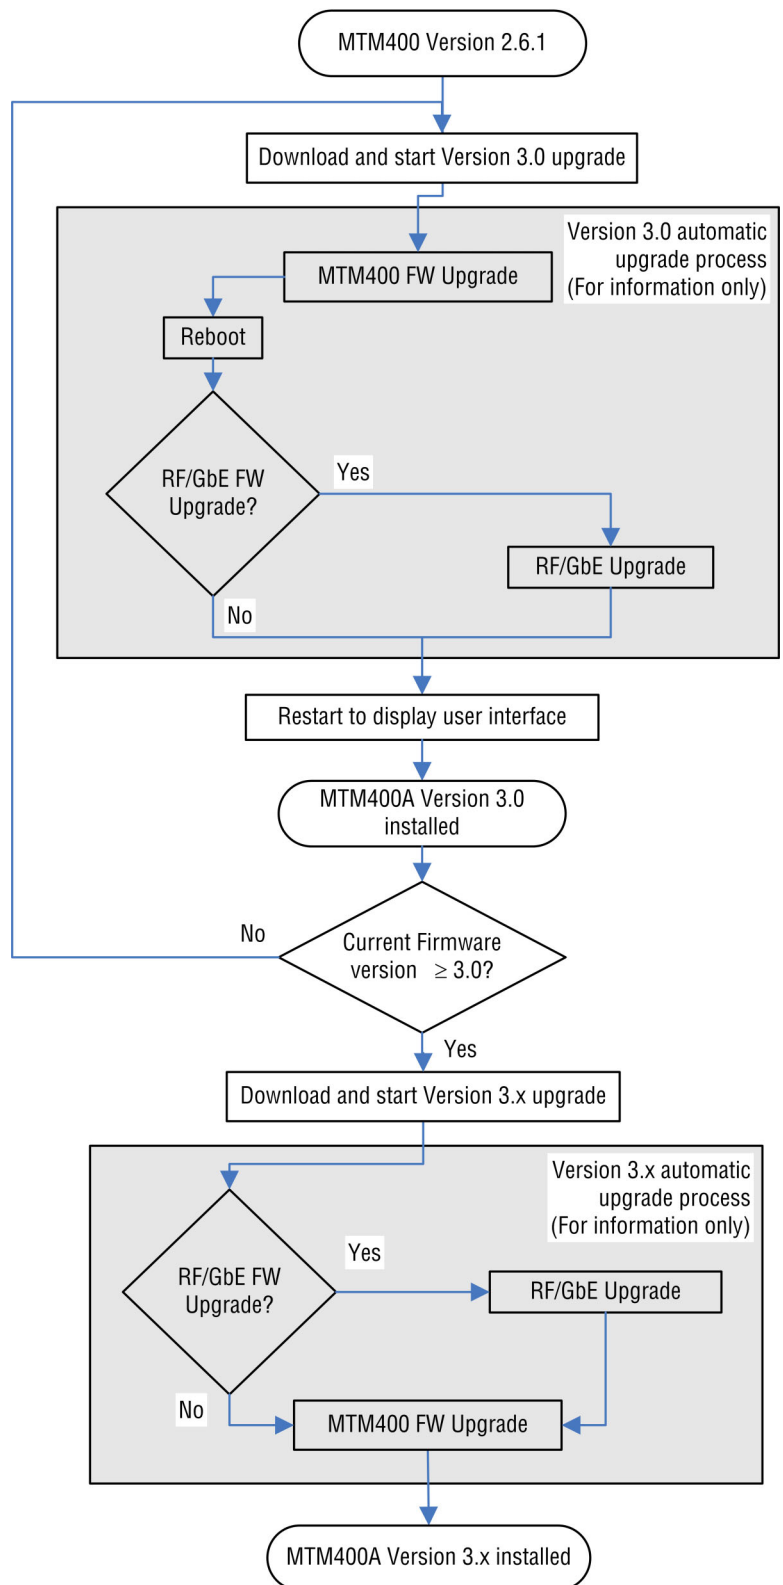

Figure 1: MTM400A upgrade path
- If your MTM400 or MTM400A monitor is currently operating with RUI v2.6.1 or below, perform the procedure described in *Firmware Upgrade (RUI v2.6.1 and Below)* to upgrade to RUI v3.0. (See page 15.) Even if you are upgrading to RUI v3.1 and above, you must upgrade to version 3.0 first. (See Figure 1.)